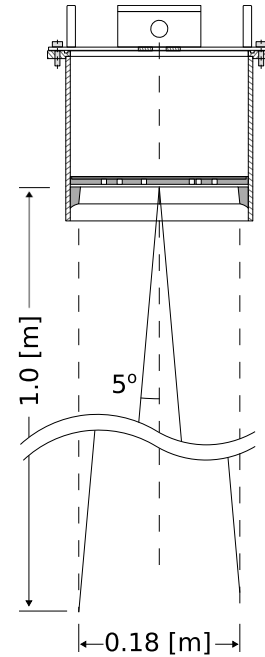

Figure 1.1: The 5° [deg] half top angle of the F08 antenna beam.
- It is advised to choose a mounting position such that the WaveGuide radar beam is free of large reflecting obstacles (the beam of the F08 antenna can be approximated to a conical shape having a 5° [deg] half top angle as shown in Fig. 1.1). The minimum horizontal distance between a radar and any obstacle in the beam's path should be at least 10% of the vertical distance between the radar and the obstacle. This does not only include horizontal objects in the beam's path but also vertical structures.